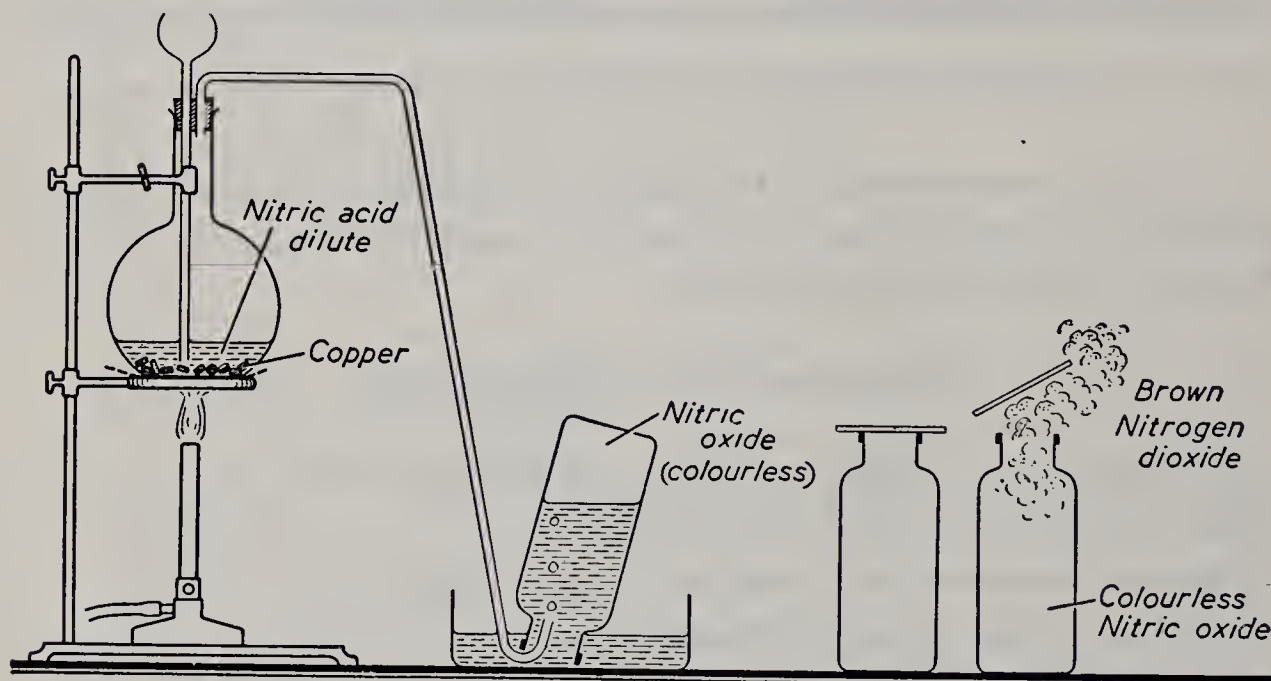

Fig. 74. The laboratory preparation and collection of nitric oxide.
1. Put approximately 20 gm. of copper turnings in a 250-ml. flask and set up the apparatus as in Fig. 74. Through the thistle-tube add sufficient dilute nitric acid to cover the copper. The flask may be warmed gently, but if allowed to stand, the reaction will proceed with increasing speed.